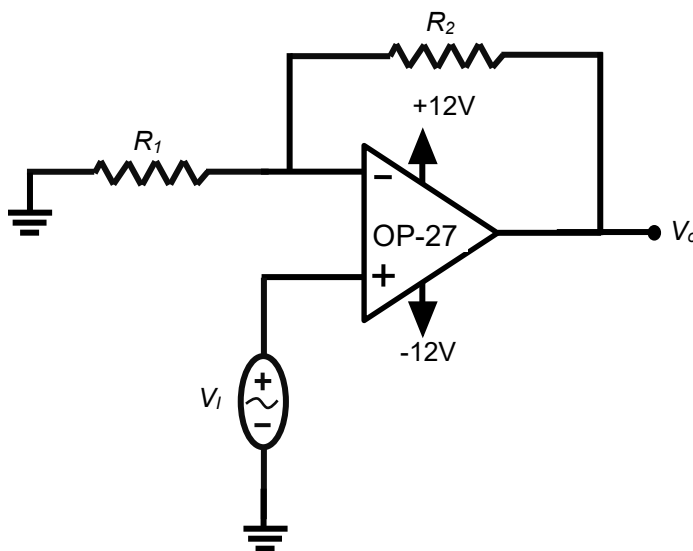

Figure 1. Non-inverting op-amp configuration.
In this part of the lab assignment, you will investigate the effect of the practical open loop gain $A(jf)$ on the non-inverting amplifier configuration shown in Fig. 1 below. Recall from Sedra & Smith textbook, the ideal overall gain of the non-inverting configuration is given as
- Refer to the non-inverting amplifier shown in Figure 1. Let $R_1=1\text{ k}\Omega$, and design an amplifier by choosing three different values for R_2 so that the gain is
1. Using the OP27 op-amp, connect the non-inverting amplifier circuit shown in Figure 1 by making $R_1=1\text{k}\Omega$, and $R_2=10\text{k}\Omega$. Record measured resistor values in your lab notebook.